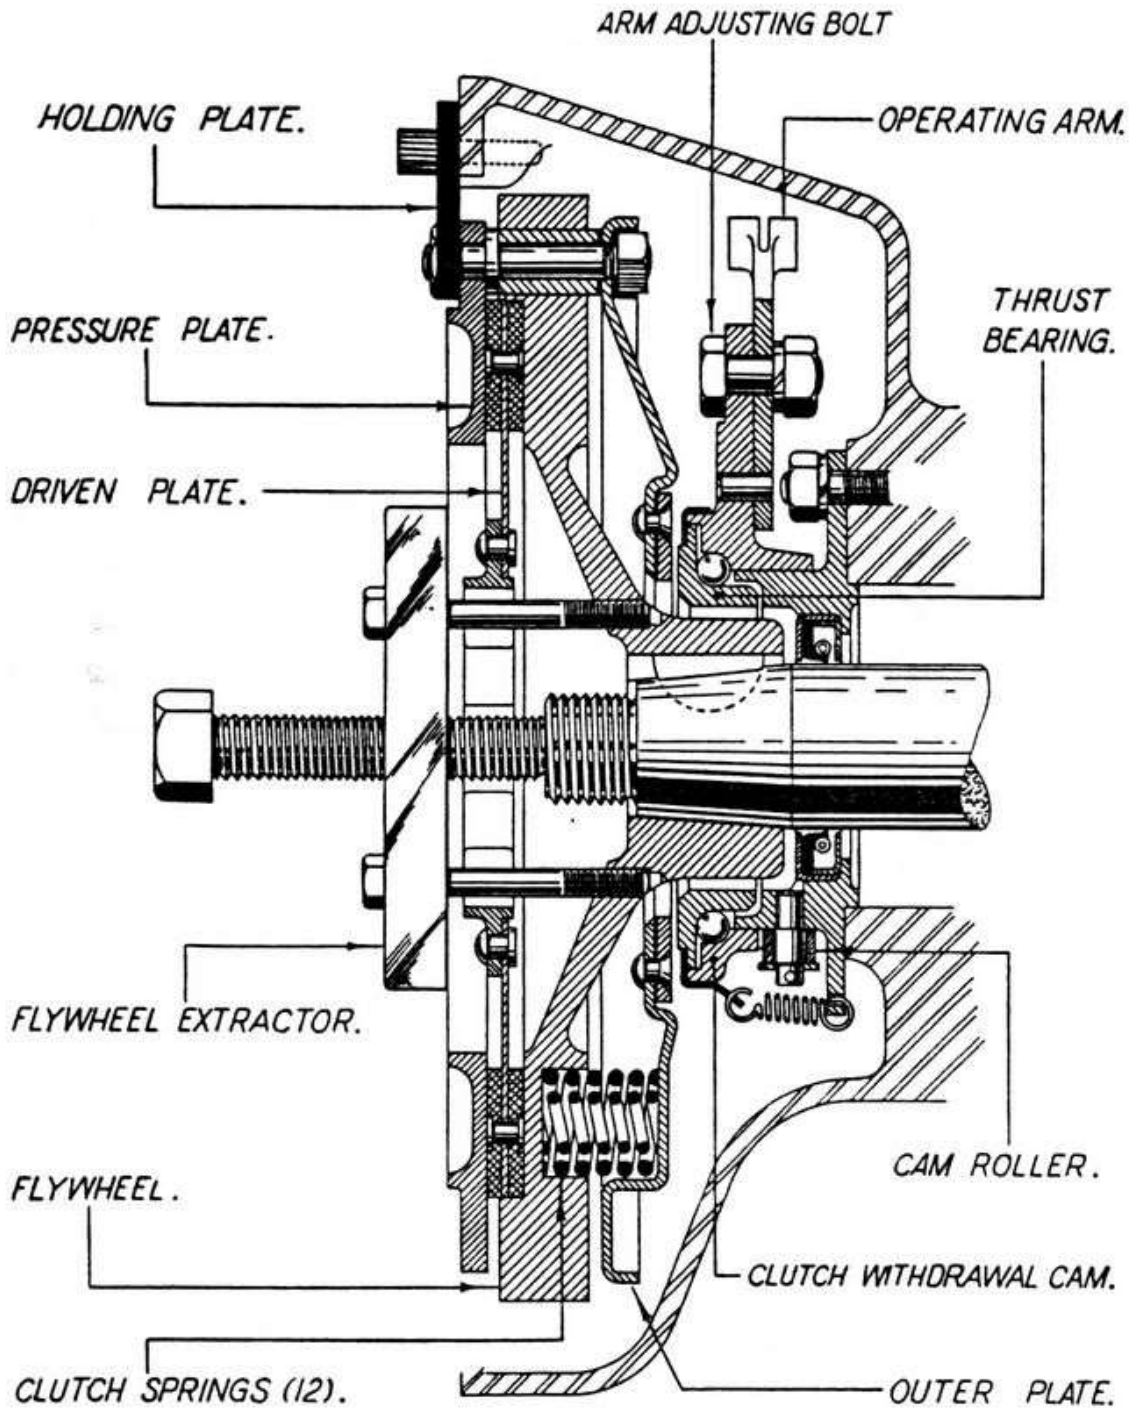

Fig. 16. CLUTCH ASSEMBLY SHOWING EXTRACTOR AND HOLDING PLATE.
To remove the flywheel, withdraw the split pin and remove the flywheel nut (1/14) with a box spanner, holding the flywheel with the plate provided with the extractor. This plate should be secured by two $\frac{5}{16}$ " B.S.F. screws to the crankcase (see Fig. 16). Use leverage in preference to hammering but if the latter has to be adopted, several light sharp blows will be better than one or two heavy concussive blows which might disturb the truth of the crankshaft. The flywheel and clutch assembly can now be pulled off, using the special extractor which can be obtained from the DOUGLAS Dealer or direct from the Factory Spares Department, and is illustrated in Fig. 16. Remove flywheel key (1/13). If it is considered necessary to dismantle the clutch, the six lock washers around the outer plate (13/1) will have to be bent back and each of the six $\frac{5}{16}$ " B.S.F. nuts unscrewed progressively to release the spring pressure evenly. The pressure plate (13/11), complete with the six driving studs, their bushes (13/15) and shims (13/16) can now be withdrawn from the flywheel, thus separating flywheel, outer plate, driven plate with friction discs (on the Plus Series, cork inserts) and the six double clutch springs. Only if it is necessary for examination, should the operating cam (14/7) and the spigot assembly (14/6) be removed from the crankcase. The former is held by three small springs (14/18) and the spigot assembly by three $\frac{1}{4}$ " B.S.F. nuts and split washers.